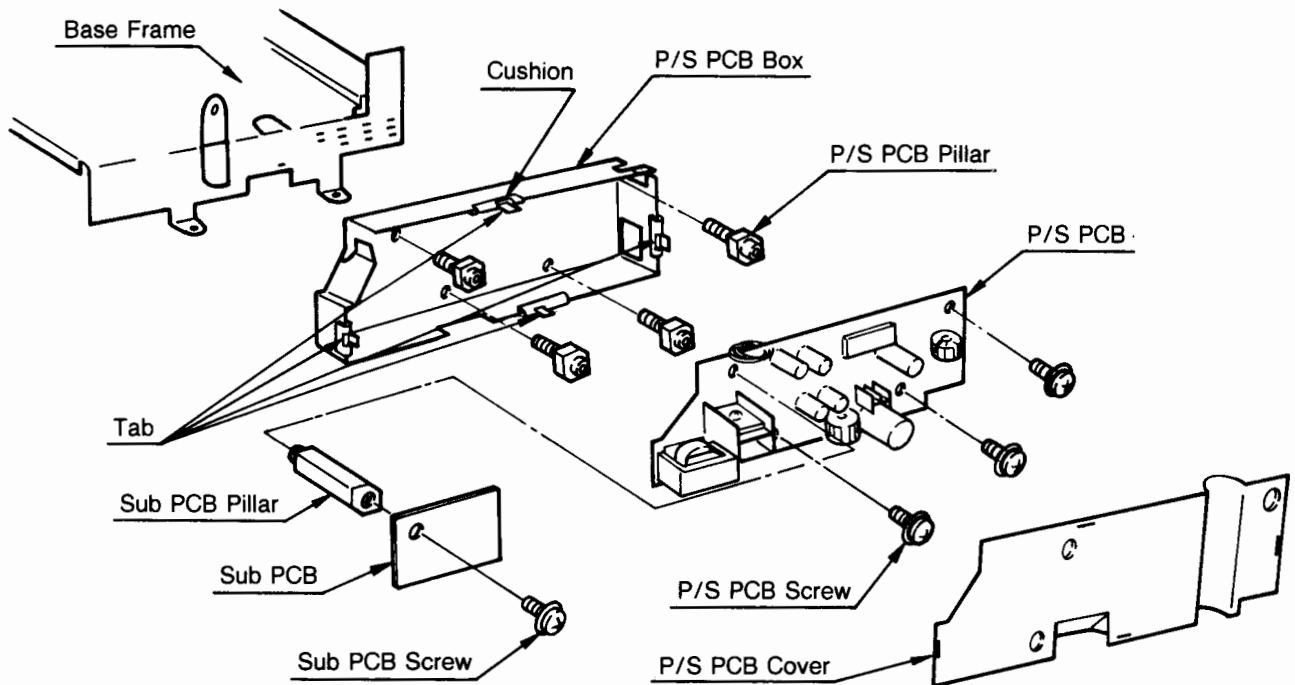

Figure 2-18. Exploded View of Power Source Assembly
- (1) Raise four tabs of the Power Source PCB Box, then remove the Power Source PCB Cover and four cushions. (Figure 2-18)
- (2) Remove the Sub PCB screw and remove the Sub PCB.
- (3) Remove the Sub PCB Pillar with a nutdriver.
- (4) Remove three Power Source PCB screws and remove the Power Source PCB.
- (5) Remove four Power Source PCB Pillars with a nutdriver and remove the Power Source PCB Box.